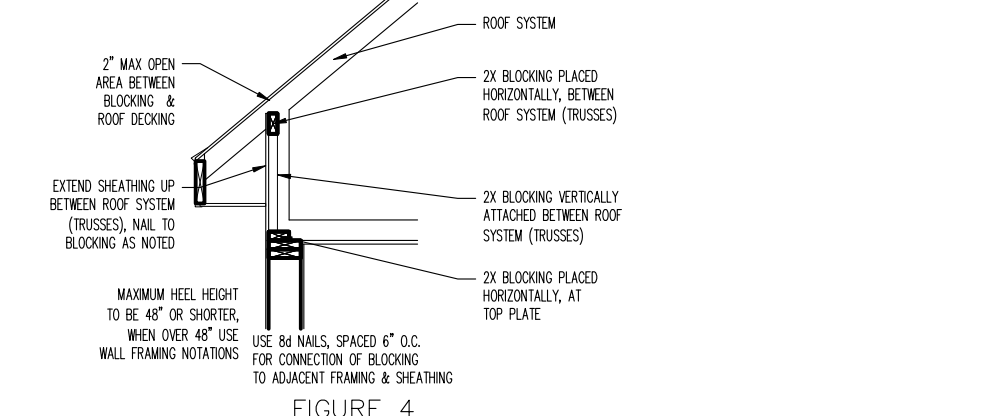

FIGURE 5
- MINIMUM 1/2" GYPSUM BOARD APPLIED TO EACH SIDE OF 2X4 (OR) 2X6 STUD WALL @ 16" O.C. SPACING OF STUDS W/ DOUBLE TOP PLATE AND SINGLE BTM.
7. (PERPENDICULAR WALL/FLOOR) ALL FLOOR SYSTEMS BETWEEN BRACED WALL PANELS TO HAVE A MIN. 2X4 TOP & BOTTOM BLOCKING BOARD PARALLEL TO BRACED WALL PANELS W/ MIN. (3)16d NAILS ATTACHING BOTTOM/TOP OF BRACED PANEL PLATE TO FLOOR SYSTEM AT BRACED PANEL WIDTH ONLY. 2X4 BLOCKING TO BE SET BETWEEN FLOOR SYSTEM MEMBERS. SOLID RIM MAY BE USED (FIG. 5 & 6).